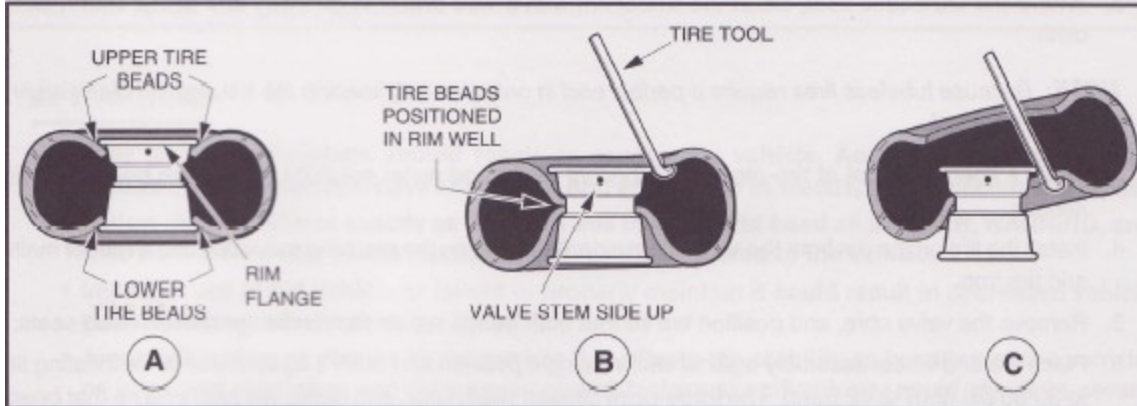

Figure 8-1
- a. If a tire machine is not available, loosen both tire beads by applying pressure to the tire side walls and pushing the tire bead away from the rim flange and into the rim well (Figure 8-1, Detail A).
- b. With the valve stem side of the wheel up, use a tire tool to carefully start the upper bead over the edge of the wheel rim (Figure 8-1, Detail B).
4. When top bead is free of the rim, pull the bead from the bottom side of the rim up into the upper part of the rim well. Insert the tire tool under the lower bead as shown (Figure 8-1, Detail C) and carefully pry the lower bead over the rim flange.